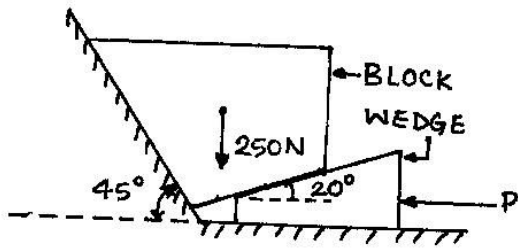

FIG 5 Q 3 (c)
- (c) A block weighing 250N rest against wall as shown in **fig 5**. A wedge is placed under it. Find out minimum force 'P' required to lift the block. The coefficient of friction at all contacting surfaces is 0.25. Neglect self weight of wedge. **05**